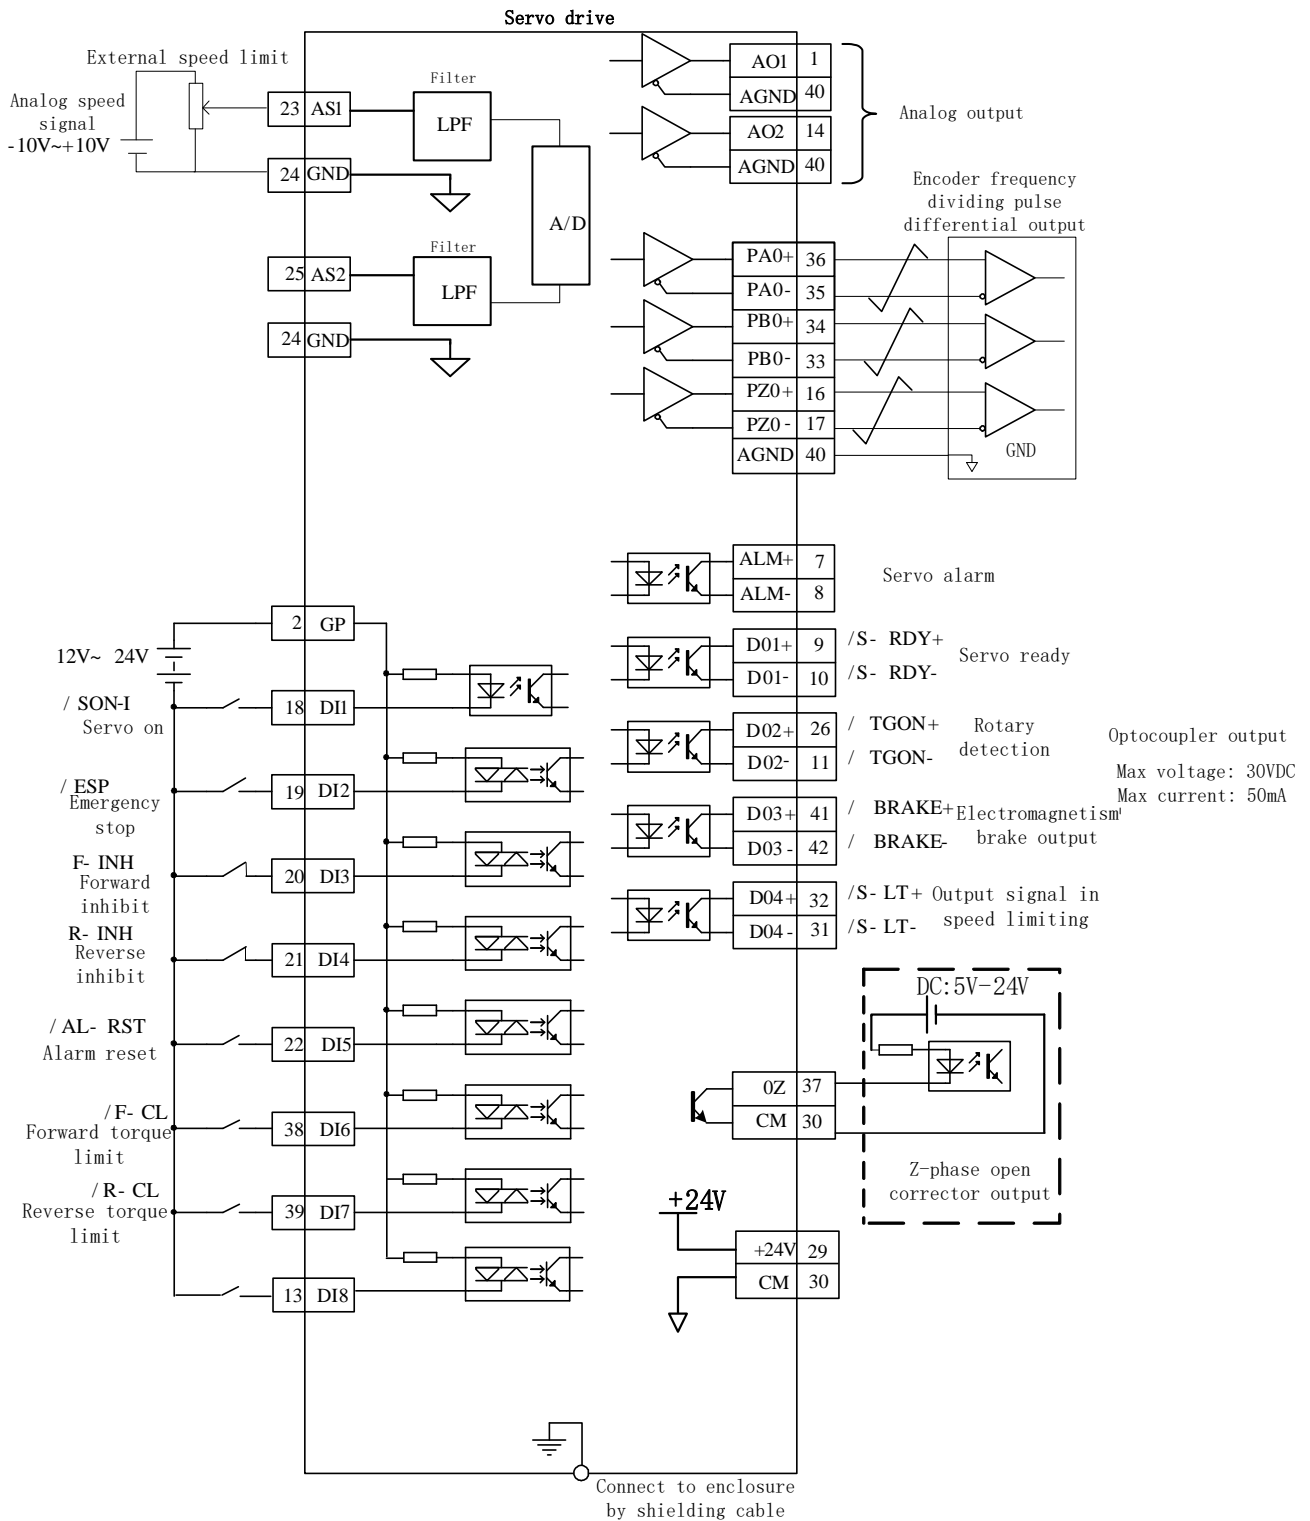
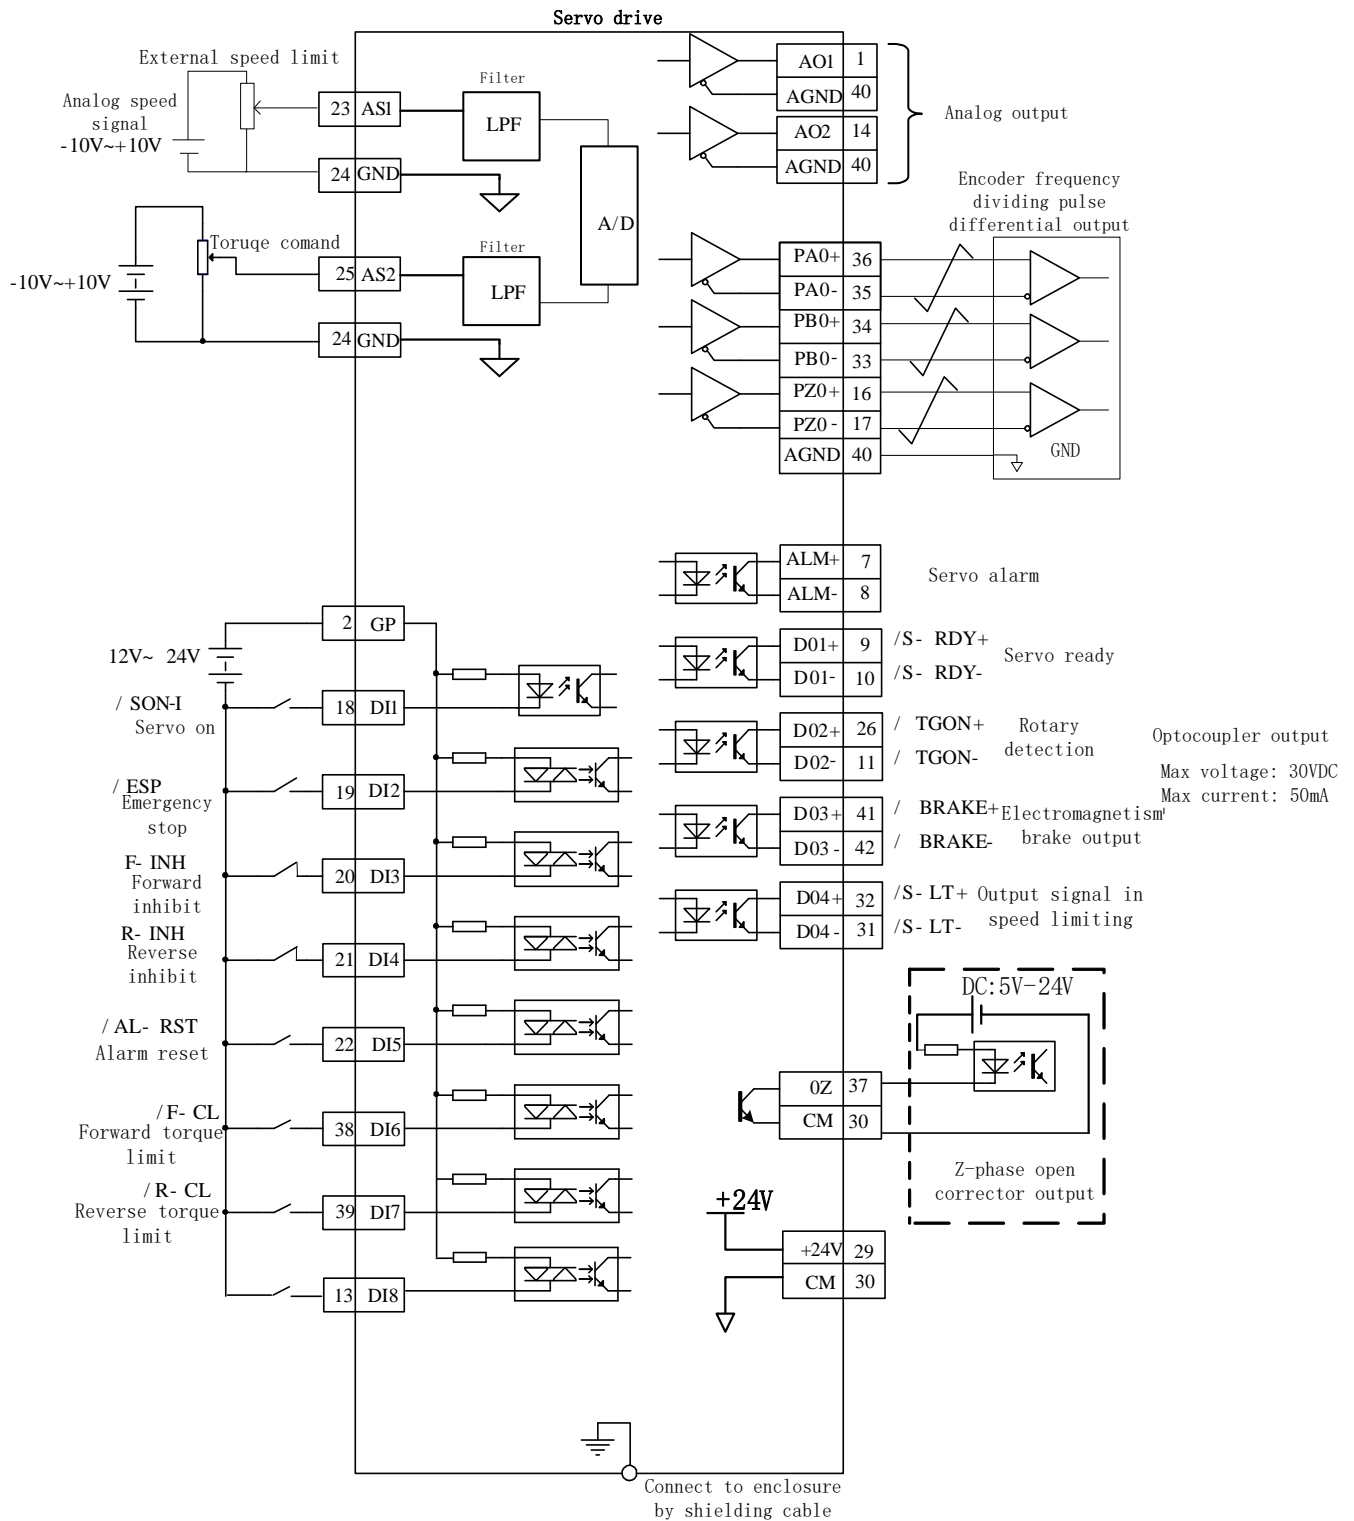

Fig 6.3.2 Diagram of internal register torque mode
Fig 6.3.3 Diagram of analog torque mode
- ★ Refer to Fig 6.3.2 and Fig 6.3.3 to connect DI/DO.